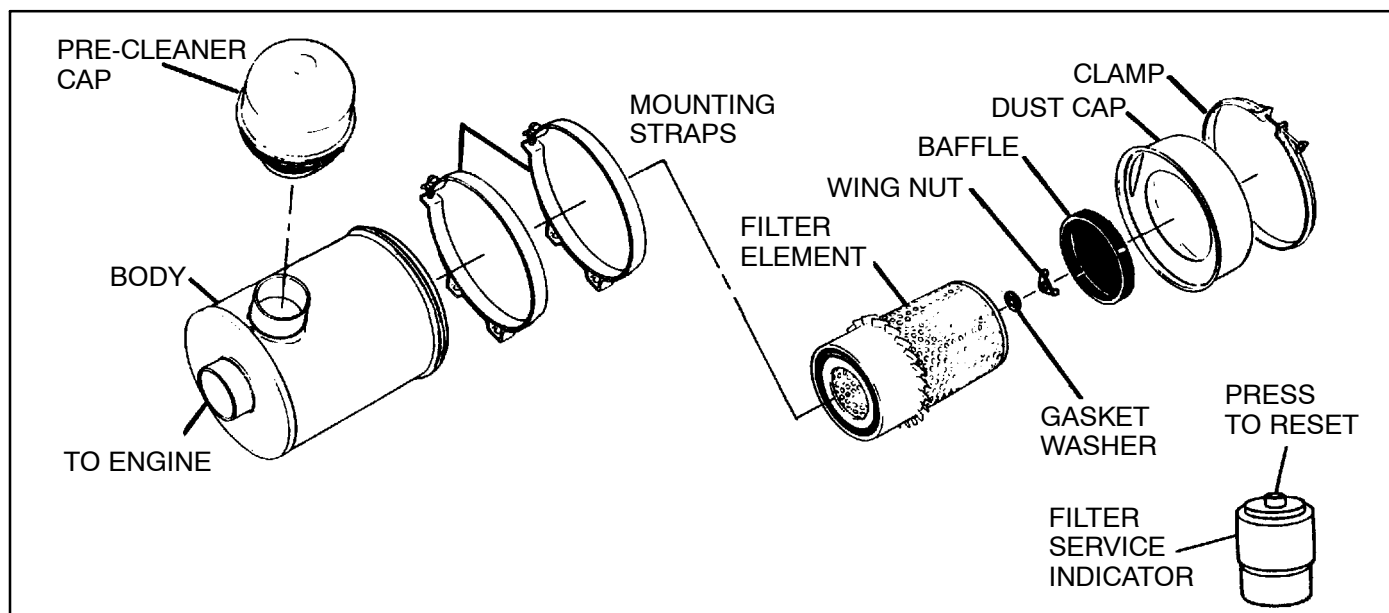

Figure 1. Air Intake System
1. Remove the clamp (See Figure 1).